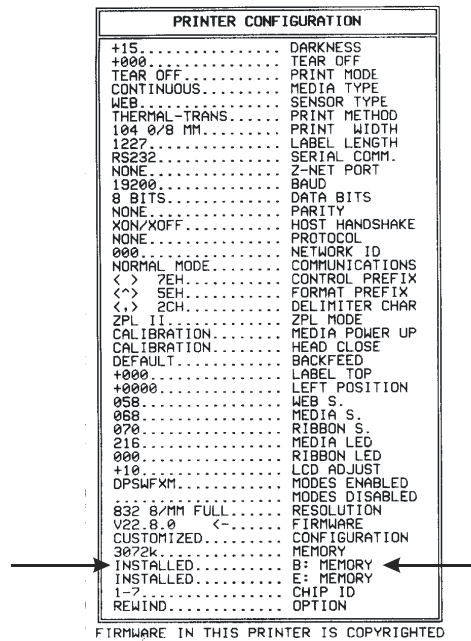

Figure 7. Configuration Label
11. Insure an **initialized PCMCIA Card** is installed (see Initializing a PCMCIA Card in the Z Series User's Guide or below). Turn the printer power on and print a configuration label (CANCEL Test) to ensure the printer recognizes the PCMCIA option (see Figure 7).
12. If the configuration label does not show **“Installed.....B: Memory”** (see Figure 7), make sure you are using an **initialized PCMCIA Card** and print another configuration label. If you are still not showing an **“Installed.....B: Memory”**, turn the printer power OFF at the rear of the printer and disconnect the AC power cord. Remove the electronics side cover and loosen the three thumbnuts and the standoff mounting screw. Realign the elastomeric connector to both board assemblies then retighten the thumbnuts. Reconnect the AC power cord and run another CANCEL test to ensure proper connection.